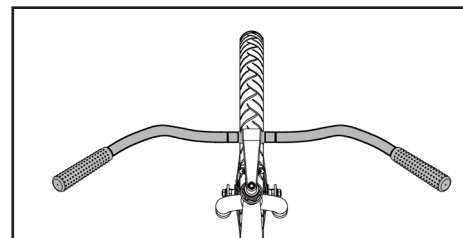

Figure 18
The stem should be pointing towards the front of the bike. Tighten the stem bolt with an adjustable wrench or Allen wrench depending on which style comes on your bike (see Figure 18). Make sure the stem is aligned with the front tire of the bike.
Then, line up the fender fork mounting tabs with the hole at the top of the fork dropouts. Install the fender hardware as shown in Figure 18, threading a washer onto the long bolt, threading the bolt through the fender fork mounting tabs and the fork, threading another washer onto the long bolt, and tightening it all down with a locknut and (E) a pair of standard slip joint pliers.